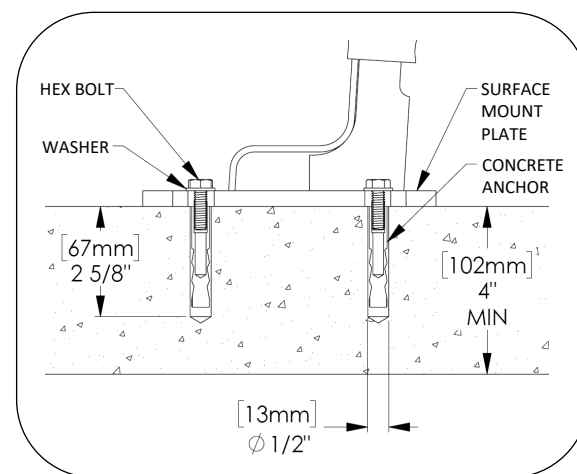

Fig. 3 – install anchors
3. Drill holes according to anchor size and depth, see Fig. 3. Clear holes of debris.
9. Set surface mount base plate in position. Install hex bolts and washers as shown in Fig. 3.